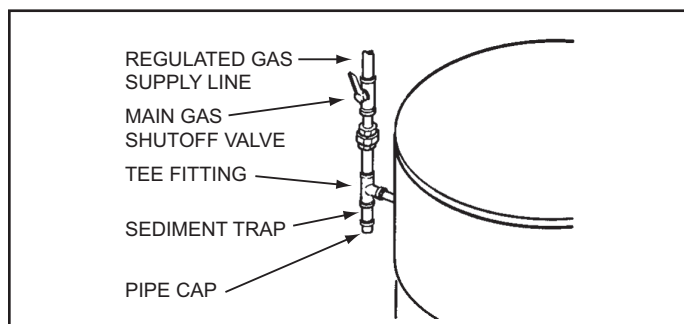

Figure 52
Ensure all gas pipe is clean on the inside before installation. To trap any dirt or foreign material in the gas supply line a sediment trap must be installed as shown in Figure 52. The sediment trap must be readily accessible and not subject to freezing conditions. Install in accordance with the recommendations of the local gas utility company.
7. Install a sediment trap as shown in Figure 52 on page 39.
8. Install a Main Gas Shutoff valve in the supply gas line as shown in Figure 52 on page 39.
1. For test pressures exceeding 1/2 psi (3.45 kPa) disconnect the water heater and its Main Gas Shutoff Valve from the gas supply piping system during testing, see Figure 52 on page 39. The gas supply line must be capped when disconnected from the water heater.